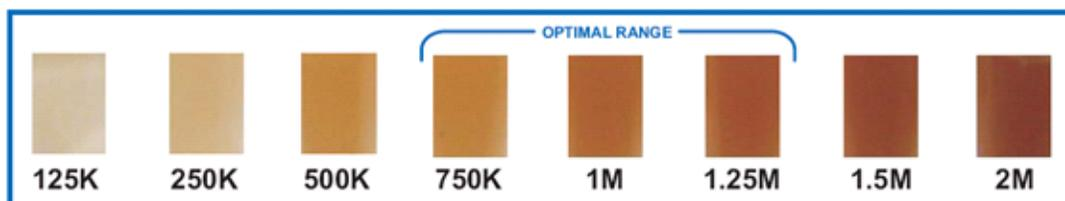
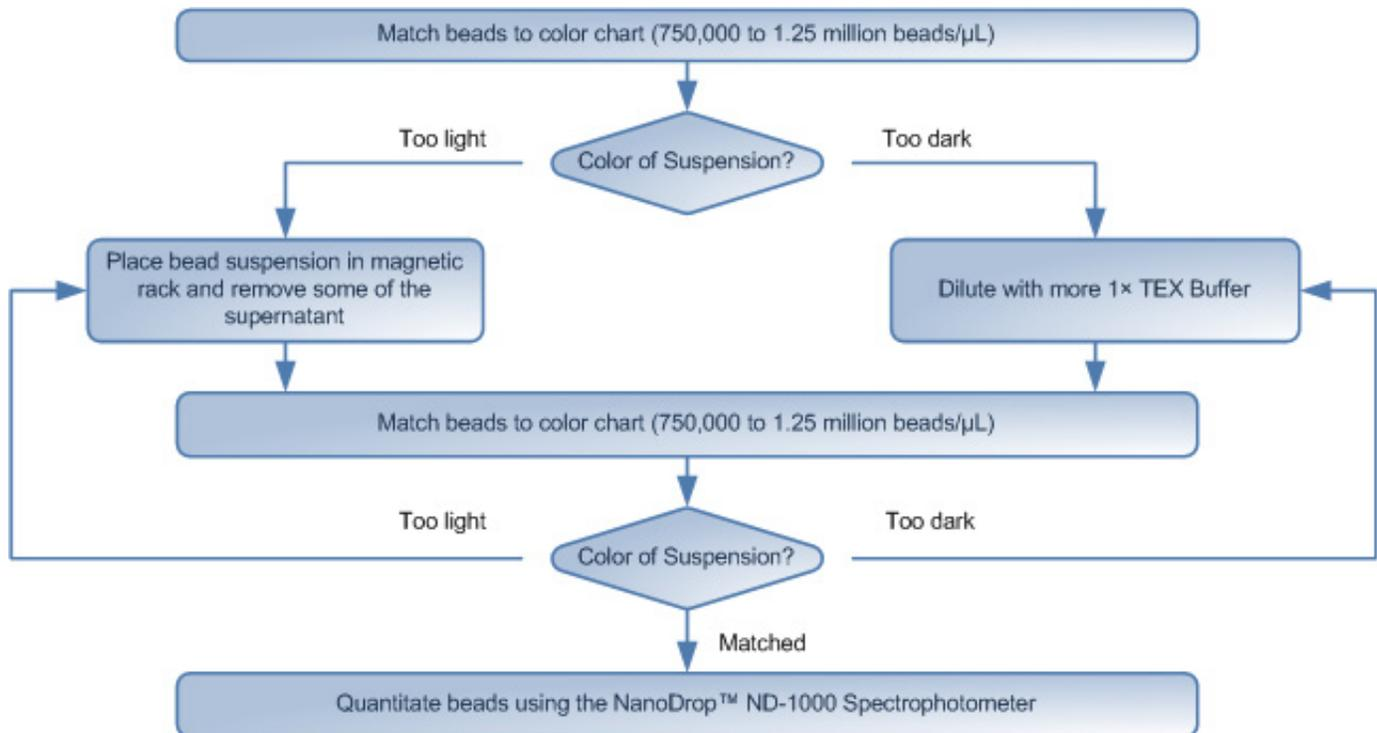

Figure 9 The SOLiD™ Bead Concentration Chart. For best results, use the *Applied Biosystems SOLiD™ Bead Concentration Chart* (PN 4415131), supplied separately.
Figure 10 SOLiD™ Bead Concentration Chart workflow.
2. If a WFA run has already been performed, use the results from the WFA report to estimate the bead concentration and proceed to step 5; otherwise, use the SOLiD™ Bead Concentration Chart (PN 4415131) to estimate the bead concentration (see Figure 9).
3. Adjust the volume of beads so that the color of the bead solution matches a color in the optimal range (750,000 beads/μL to 1.25 million beads/μL; see Figure 9 and Figure 10 on page 16).